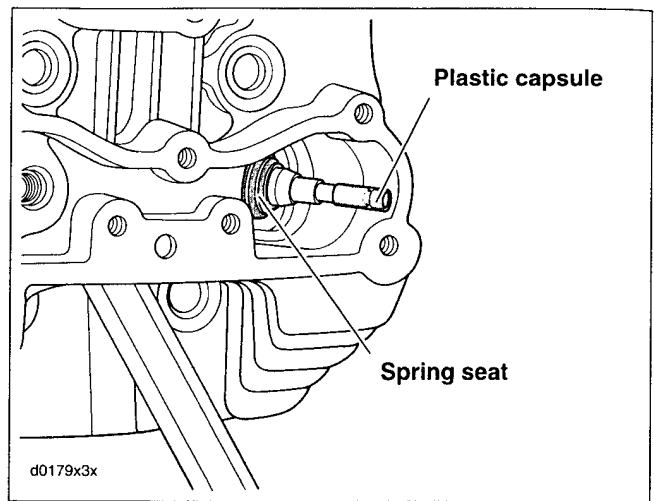

Figure 3-103. Install Plastic Capsule
11. See Figure 3-103. Push on bottom of valve until it contacts the valve seat. Placing finger at bottom of valve to keep valve seated, slide plastic capsule over valve stem tip and keeper groove.